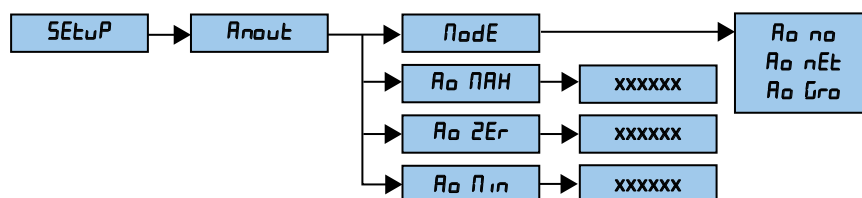

Figure 4-7. Analog Output Menu
1. Enter setup mode and go to the An out menu (see Figure 4-7 on page 37).